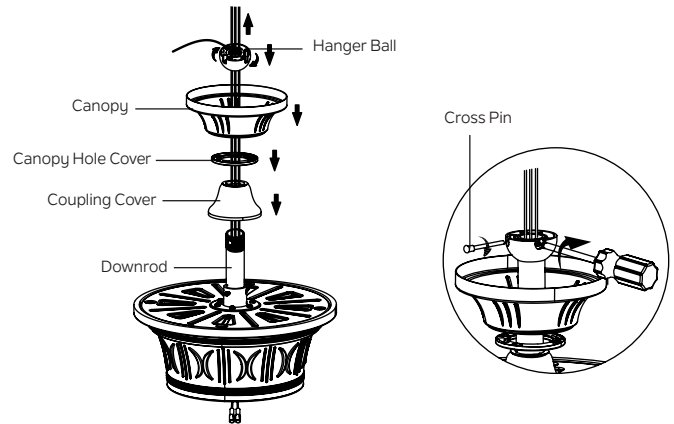

Fig. 9
**Step 5.** Slip the coupling cover, canopy hole cover and canopy onto the downrod. Carefully reinstall the hanger ball onto the downrod. Make sure the cross pin is in the correct position and the set screw is tight and the wires are not twisted. ( Fig. 9)